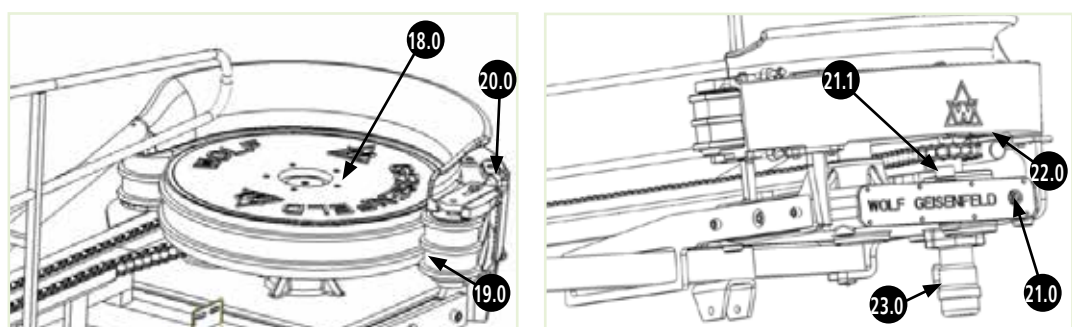
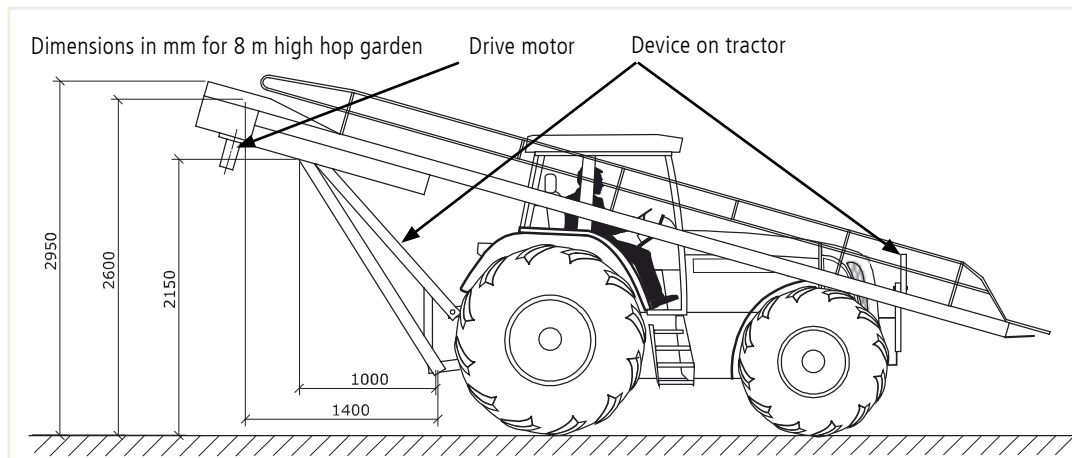

Fig. 4
Fig. 12
1. The bine loader is attached to the side of the tractor/tractor unit using special devices (Fig. 12) at the front and rear. These devices, the hydraulic connections and the controller are not included in the scope of delivery. When using the devices, the instructions of the respective manufacturers must be observed. One attachment point of the machine is in the area of the bine entrance and the other two are in front of the tear-off head (see Fig. 4). The attachment points of the bine loader must be prevented from working themselves loose on the tractor. The devices can usually be adjusted hydraulically and must be stable and sufficiently sized to withstand the considerable strain caused by bumps, vibrations, etc. during harvesting and transport for further processing. There is a risk to life if attachment devices are incorrectly sized.
3. If using a loading truck, the dimensions (Fig. 12) must be observed. If using the control block, the instructions of the respective manufacturer must be observed.
The dimensions in Fig. 12 refer to average values for an 8 m high hop garden (bine height 6.5 m). They will vary depending on the height of the hop garden and the size of the tractor.
1. The harvest begins in the hop field. The bine loader is located on the side of the tractor/tractor unit (Fig. 12).
3. The tractor/tractor unit (Fig. 12) moves forward and the bine loader is switched on. The infeed chains 1.0 (Fig. 1) must have the same speed as the tractor. The hop bines are drawn in via infeed chains 1.0 (Fig. 1) and cut off with the disc cutter 3.0 (Fig. 2). The chain guide 4.0 transports the bine to the tear-off head 10.0 (Fig. 4). Here, the hop bine is separated from the hop garden.